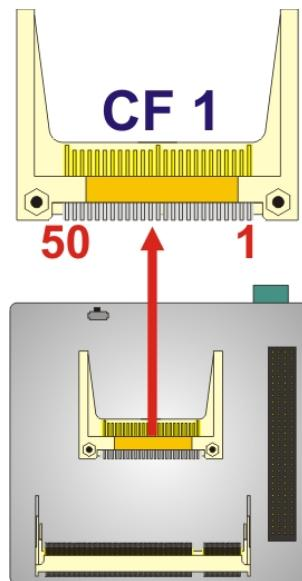

Figure 3-5: CompactFlash® Slot Location
**CN Location:** See **Figure 3-5**